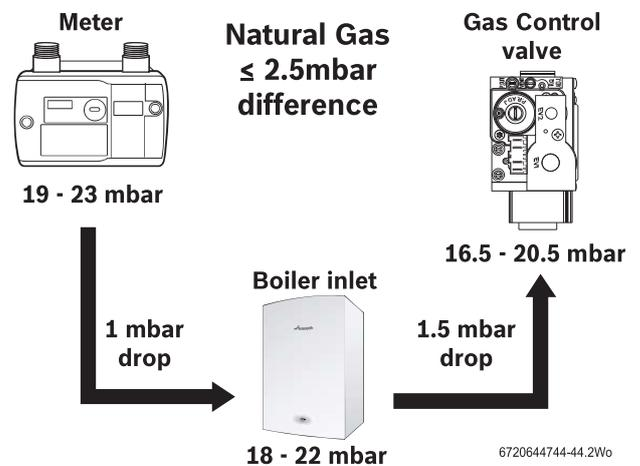
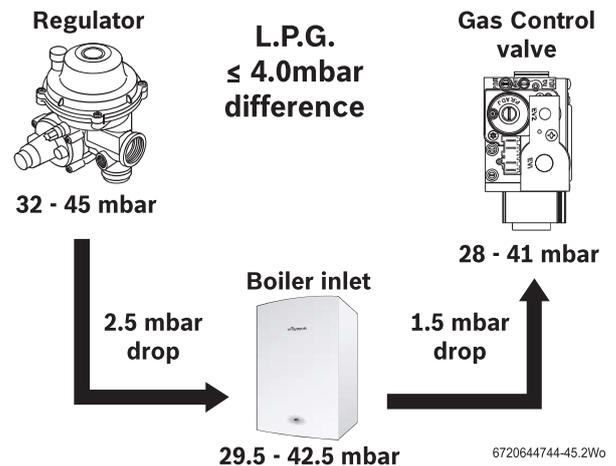

Fig. 58 Natural gas pressures
Fig. 59 L.P.G. pressures
- ▶ Check the gas supply working pressure at the gas valve conforms to values shown in Fig. 58 or Fig. 59 .